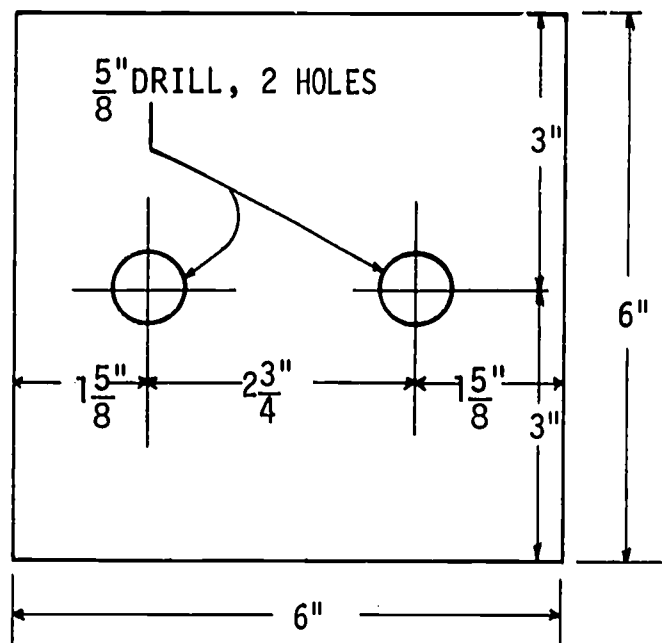

Fig. 39-8. Spacer Block Detail
5. Lay out, saw, and drill one spacer block. See Fig. 39-8.